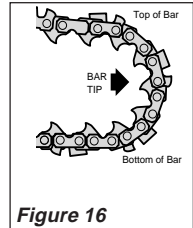

Figure 16
3. Install the chain loop over the drive links within the guide bar groove, and then align the chain over the drive sprocket. Verify that the cutters are properly oriented as shown in Figure 16. If chain installation is difficult or if the chain appears too tight, refer to the section "Adjusting the Chain" on the next page.